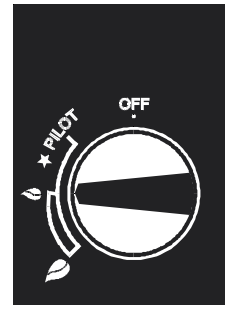

Figure 6 - Minimum Position
1. Once the pilot is established, the main burner can be operated by turning the control knob anti-clockwise. The preset minimum is found with the arrow in the 9 o'clock position as shown in **Figure 6**.